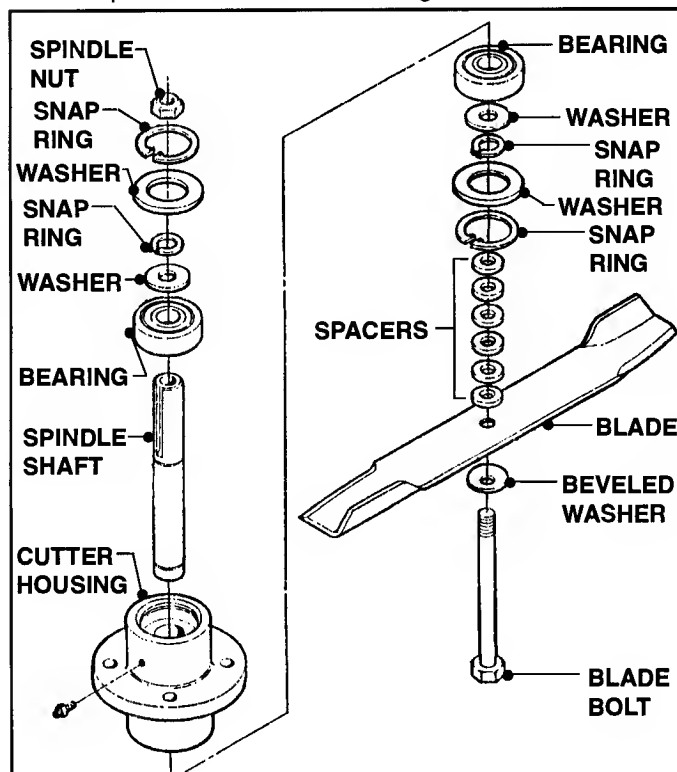

FIGURE 4.2
- B. Use two (2) 15/16" Box End Wrenches (one on each end of Spindle) to remove Spindle Nut, Blade Bolt, Spacers and Blade. See Figure 4.2.